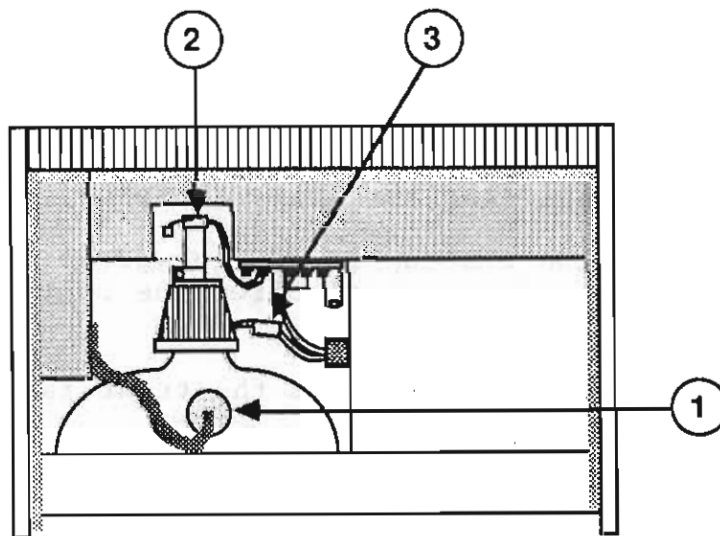

FIGURE 5C
WARNING: In the following steps, avoid touching the red-painted anode area of the CRT (Figure 5C, #1).
2. Reconnect the ground wire (extending from the round yoke connector) to the contact on the floor of the CRT cup. Replace the CRT cup (Figure 5C, #2).
Connect the yellow and green yoke connector to the connector coming from the screen kit transformer. (See Figure 5C, #3.) Then connect the blue and red yoke connector to the socket at the right side of the video board.